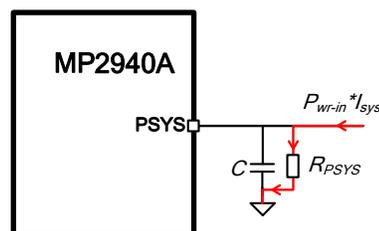

Figure 19: PSYS Connection
The input power sensing device sends a current signal to the MP2940A, which is proportional to the input power. A resistor from PSYS to GND will convert the current into voltage. A bypass capacitor is required. Figure 19 shows the PSYS connection. The PSYS resistor value is calculated with Equation (9):